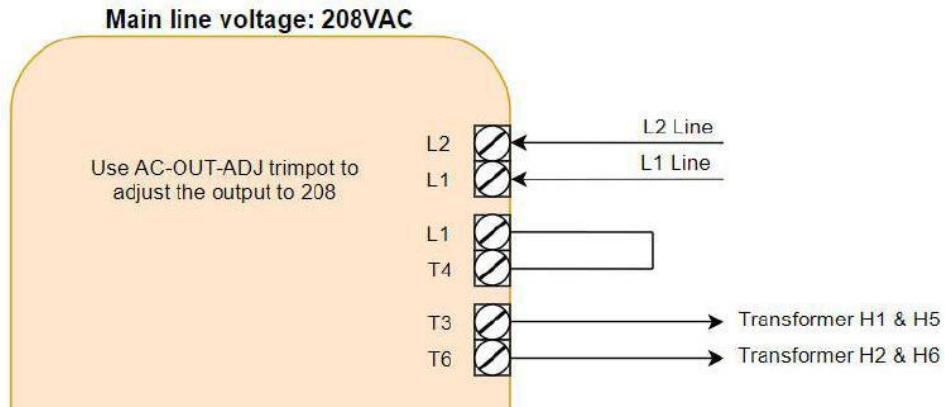
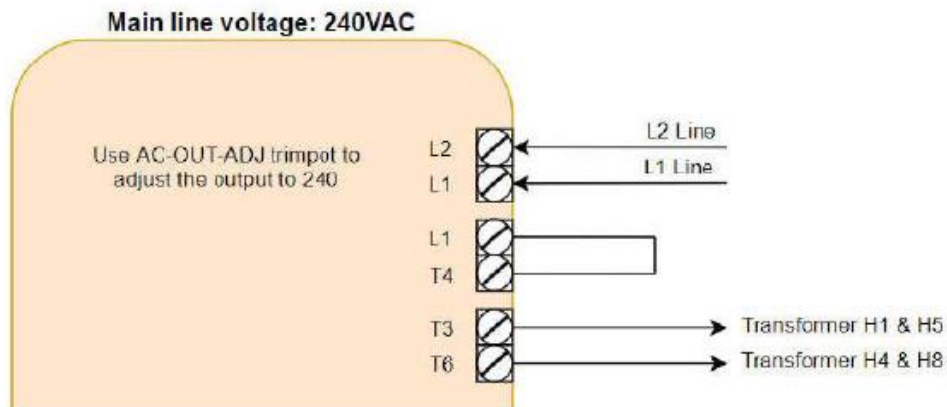
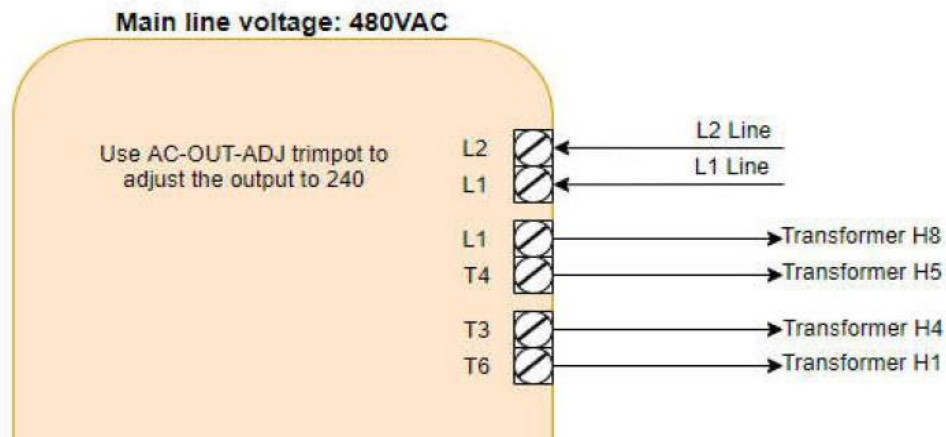

Figure 7: 208 VAC Wiring
Figure 8: 240 VAC Wiring
Figure 9: 480 VAC Wiring
- **L1, T4, T3, T6** – External connections based on incoming main line power. See Figure 7, Figure 8, Figure 9.